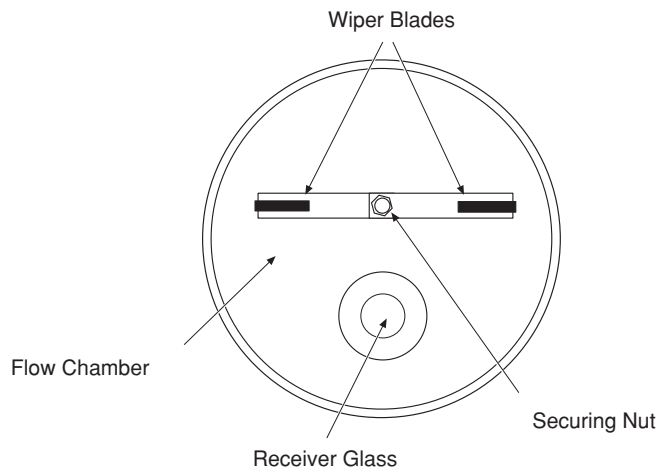

Fig. 6.4 Servicing the High Range Wipers
④ Thoroughly check and clean the inside of the cell. The wiper blades can also be serviced/changed – see Fig. 6.4.
⑤ Reassemble.